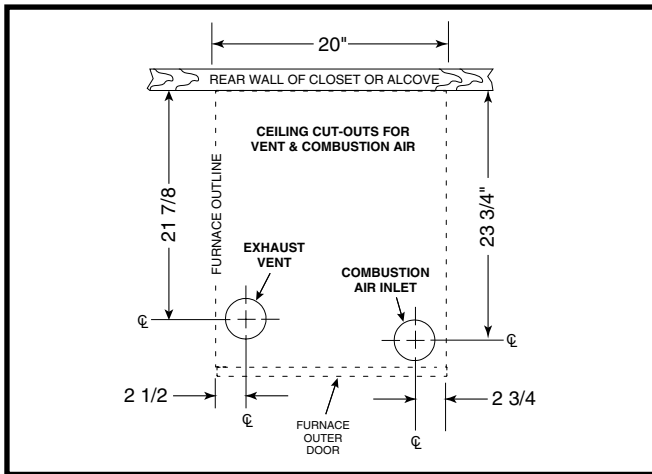

Figure 10. Ceiling Cut-Out Dimensions
To locate standard ducts, see Figure 9. For round ducts, see Figure 10 \(page 15\).
- Measure and drill gas hole and cut out for cooling coil (if applicable). See Figure 9 or Figure 10.
Cut-outs in the ceiling and roof must be carefully located to avoid misalignment of the furnace, combustion air piping, and vent piping. See Figure 10.
- Using the centerlines as a starting point, draw the rest of the cut-outs to the dimensions shown in Figure 10.